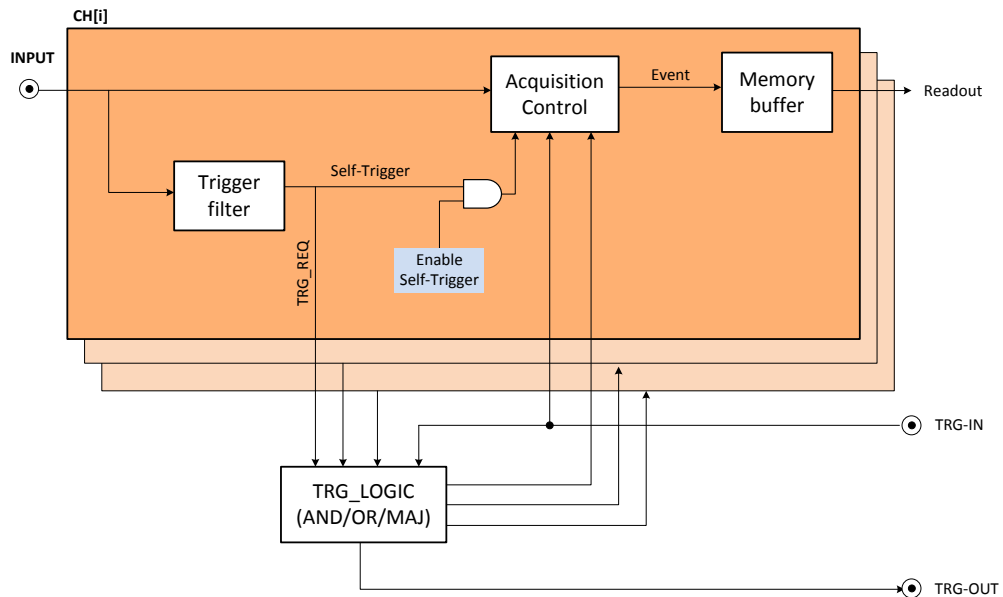

Fig. 2.4: Diagram showing the structure of the trigger management of the DPP-CI firmware
- 2) each channel triggers independently, then only those events satisfying programmable conditions are saved. Referring to **Fig. 2.4**: the TRG\_LOGIC can combine (AND/OR/MAJ) the trigger request (TRG\_REQ) from each self-trigger. When the logic condition is met, a trigger validation (TRG\_VAL) is sent back to each channel individually to enable the acquisition of that event. Events not receiving a TRG\_VAL signal are discarded. This technique allows to make coincidence and anti-coincidence requests among different channels (refer to **[RD4]** for further details);